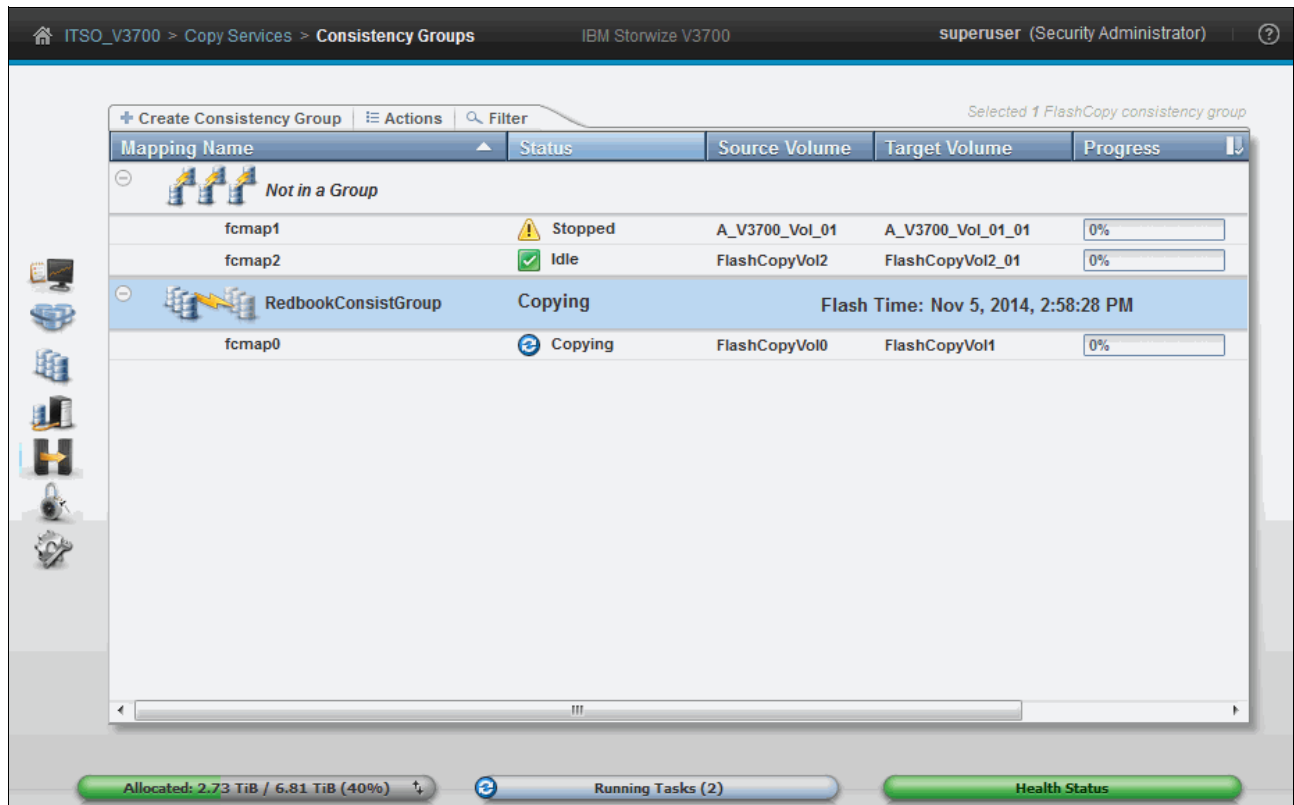

Figure 10-53 Access to the Consistency Groups window
1. Click **Consistency Groups** under the Copy Services function icon. This displays the view shown in Figure 10-53.